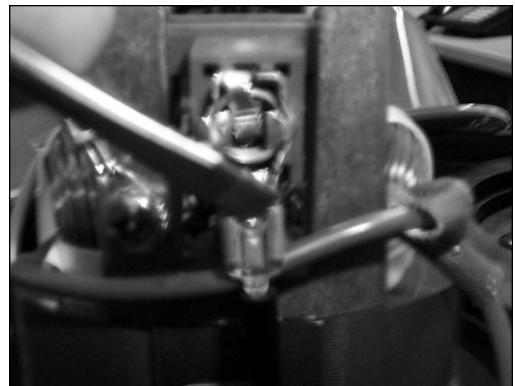

Fig. 2
4. Remove the wire terminal from carbon brush housing. See Figure 2